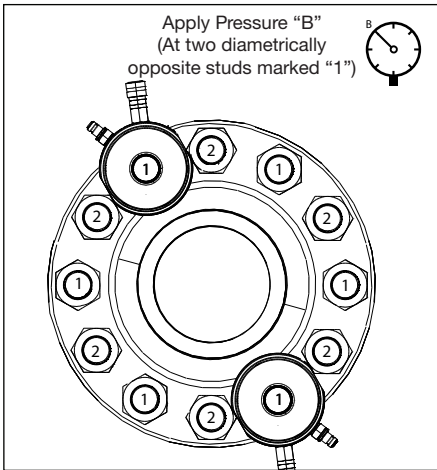

FIGURE 15, RECHECKING FIRST PASS TENSIONER (50% TENSIONER COVERAGE)
- a. Assemble tensioners on any two “first pass” bolts (labeled “1”) located diametrically opposite of each other. See Figure 15.
26. Verify that the oil pressure gauge indicates zero (0) psi/bar. If any pressure is indicated, release the hydraulic pressure SLOWLY by opening the pump pressure release (return to tank) valve.